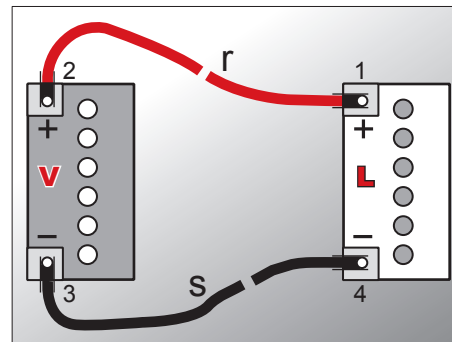

Fig. 99
1. Connect the red jumper cable Item r (Fig. 99) to the positive pole of the dead battery Item L.
2. Connect the red jumper cable to the positive pole of the charged battery Item V (Fig. 99).